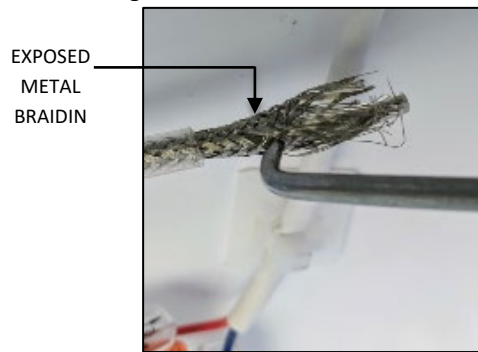
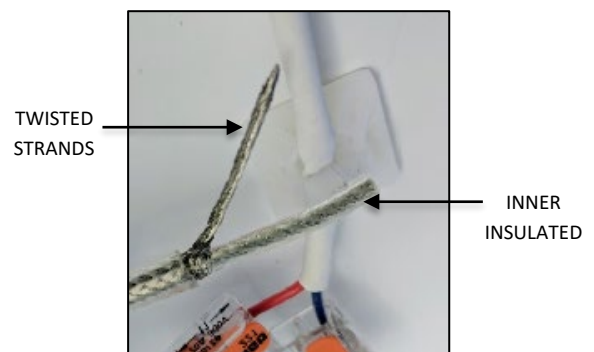

FIG. 35
FIG. 36
2. Using a small pointed object, begin unweaving the exposed metal braiding as shown in FIG. 35 below. Position the unwoven metal strands on one side of the inner insulated wire and twist the individual strands together as shown in FIG. 36 below.